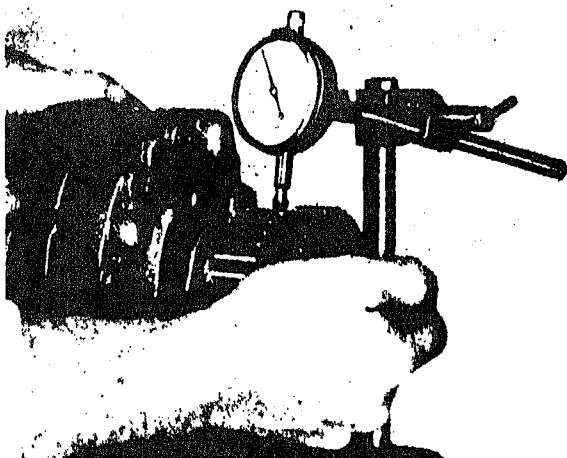

Fig. 10-4-1. Check radial bearing clearance
- b. Install an indicator gauge on rotor timing gear outer diameter. Fig. 10-4-1.